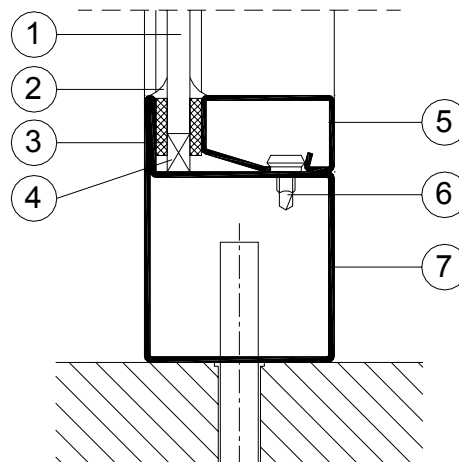

Figure 6
- Seal with correct thickness corresponding to the glass shall be stuck on the glazing lug of the frame (see Figure 6).
- In the corners under the glazing aperture (approximately 50-100mm from the edge) glazing blocks (4) shall be installed (see Figure 6) so that their height would be 10 mm and the thickness would be equal to the thickness of glass.